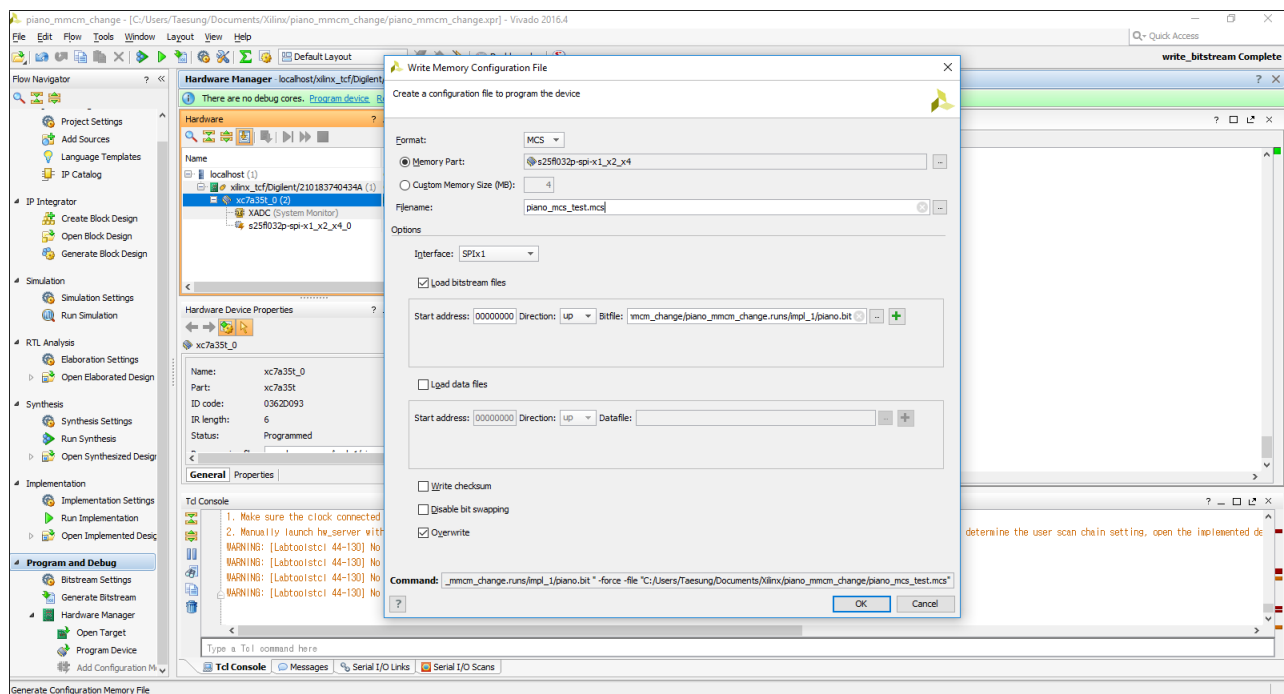

Figure 2.
1. Go to Tools $\rightarrow$ Generate Memory Configuration File from top menu bar. There are several things to configure in the next window. Please refer to Figure 2.